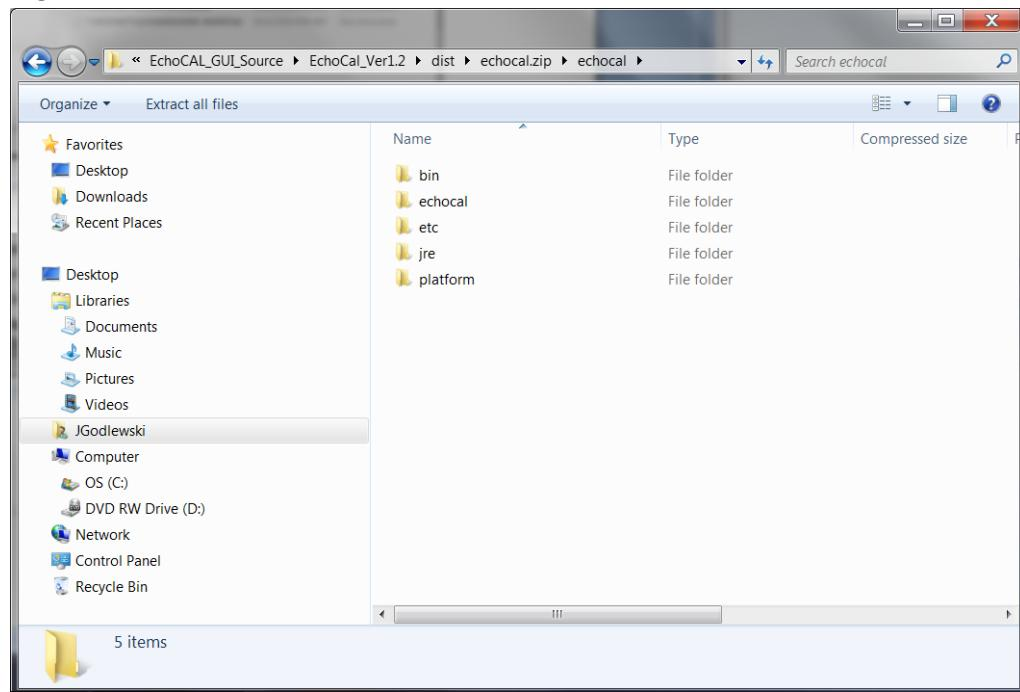

Figure 35: New JRE folder inside "echocal.zip" file.
- d. In Windows Explorer, double-click on the “**echocal.zip**” file to open the ZIP file in an Explorer window. Double-Click on the “**echocal**” folder to open the application folder (Figure 35).
- e. Right-Click in this window, and select “**Paste**” from the contextual menu. The JRE folder will be compressed/copied into the “**echocal.zip**” distribution file (Figure 35).